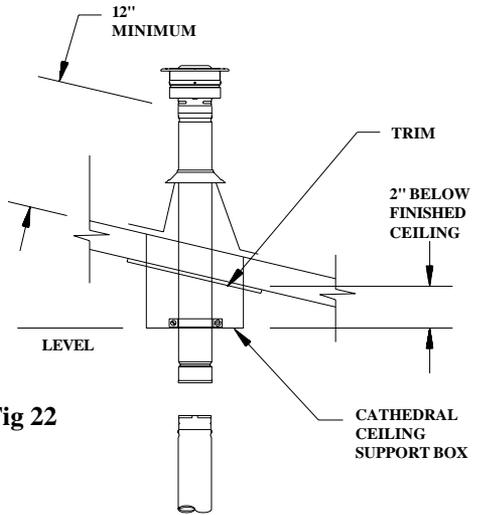

Fig 22
9. Connect the necessary amount of pipe sections to reach the stove at a point where the Cap will be at least 12-inches above the roof. (Figure 22).